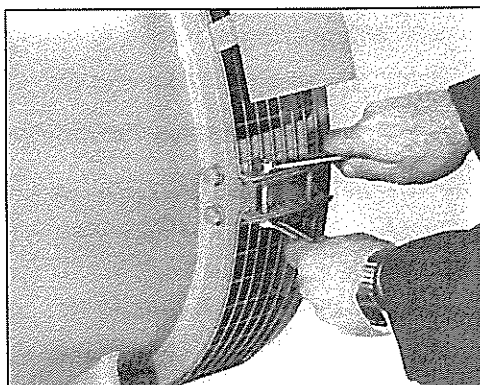

Figure 6-24
3. If the screen assembly is still mounted, remove the bolts securing the screen assembly to the drive end bracket or the SAE adapter and remove the screen assembly (figure 6-24). (**Note:** Do not remove the drip cover from the screen assembly if so equipped).